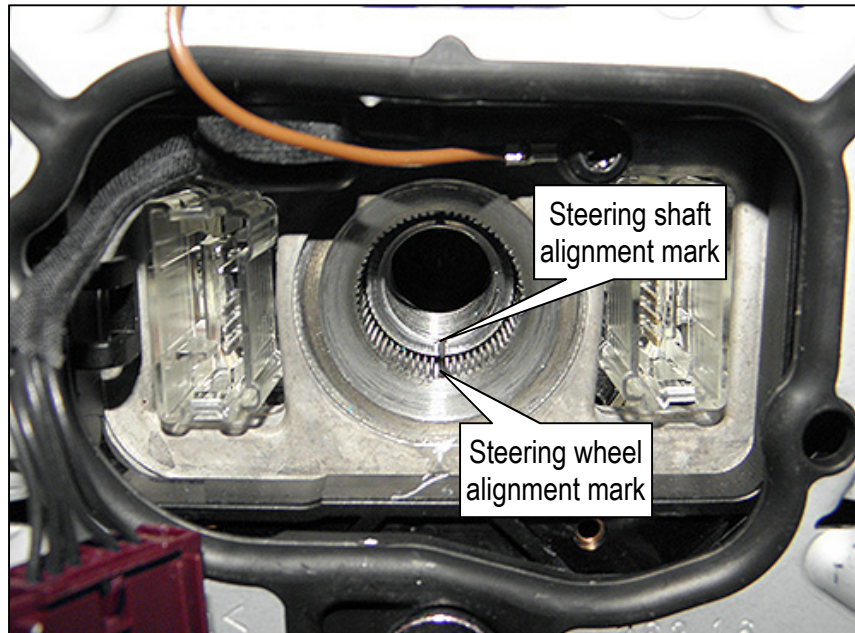

Figure 22
**IMPORTANT:** Confirm that the steering wheel alignment marks are as shown in Figure 22.